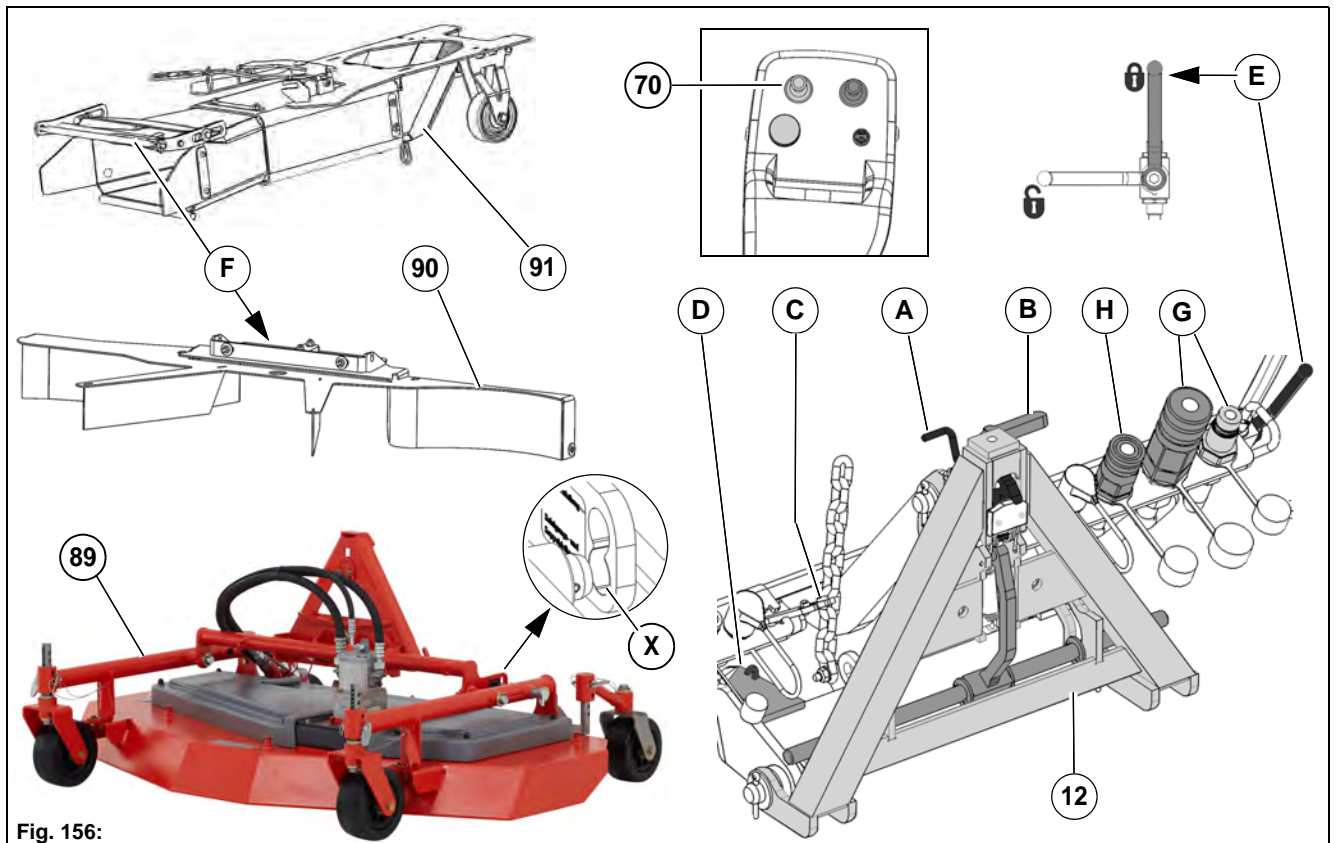

Fig. 156:
4. Unlock the locking hook **Fig. 156-A** and locking rod **Fig. 156-B** on the front tool carrier. The mower must be mounted in the coupling position **X**!
6. Raise the front tool carrier **Fig. 156-12** with the joystick **Fig. 156-70** and hook the chain **Fig. 156-C** on the hook **Fig. 156-D**.
8. Close the valve **Fig. 156-E** for raising the suction mouth in the raised position!
9. Lock the suction pipe **Fig. 156-91** at the suction system with the bow **Fig. 156-F**.
- Max. 50 litres/min. – Supply/return (hydraulic circuit I) = **Fig. 156-G**
- Leakage oil pipe = **Fig. 156-H**